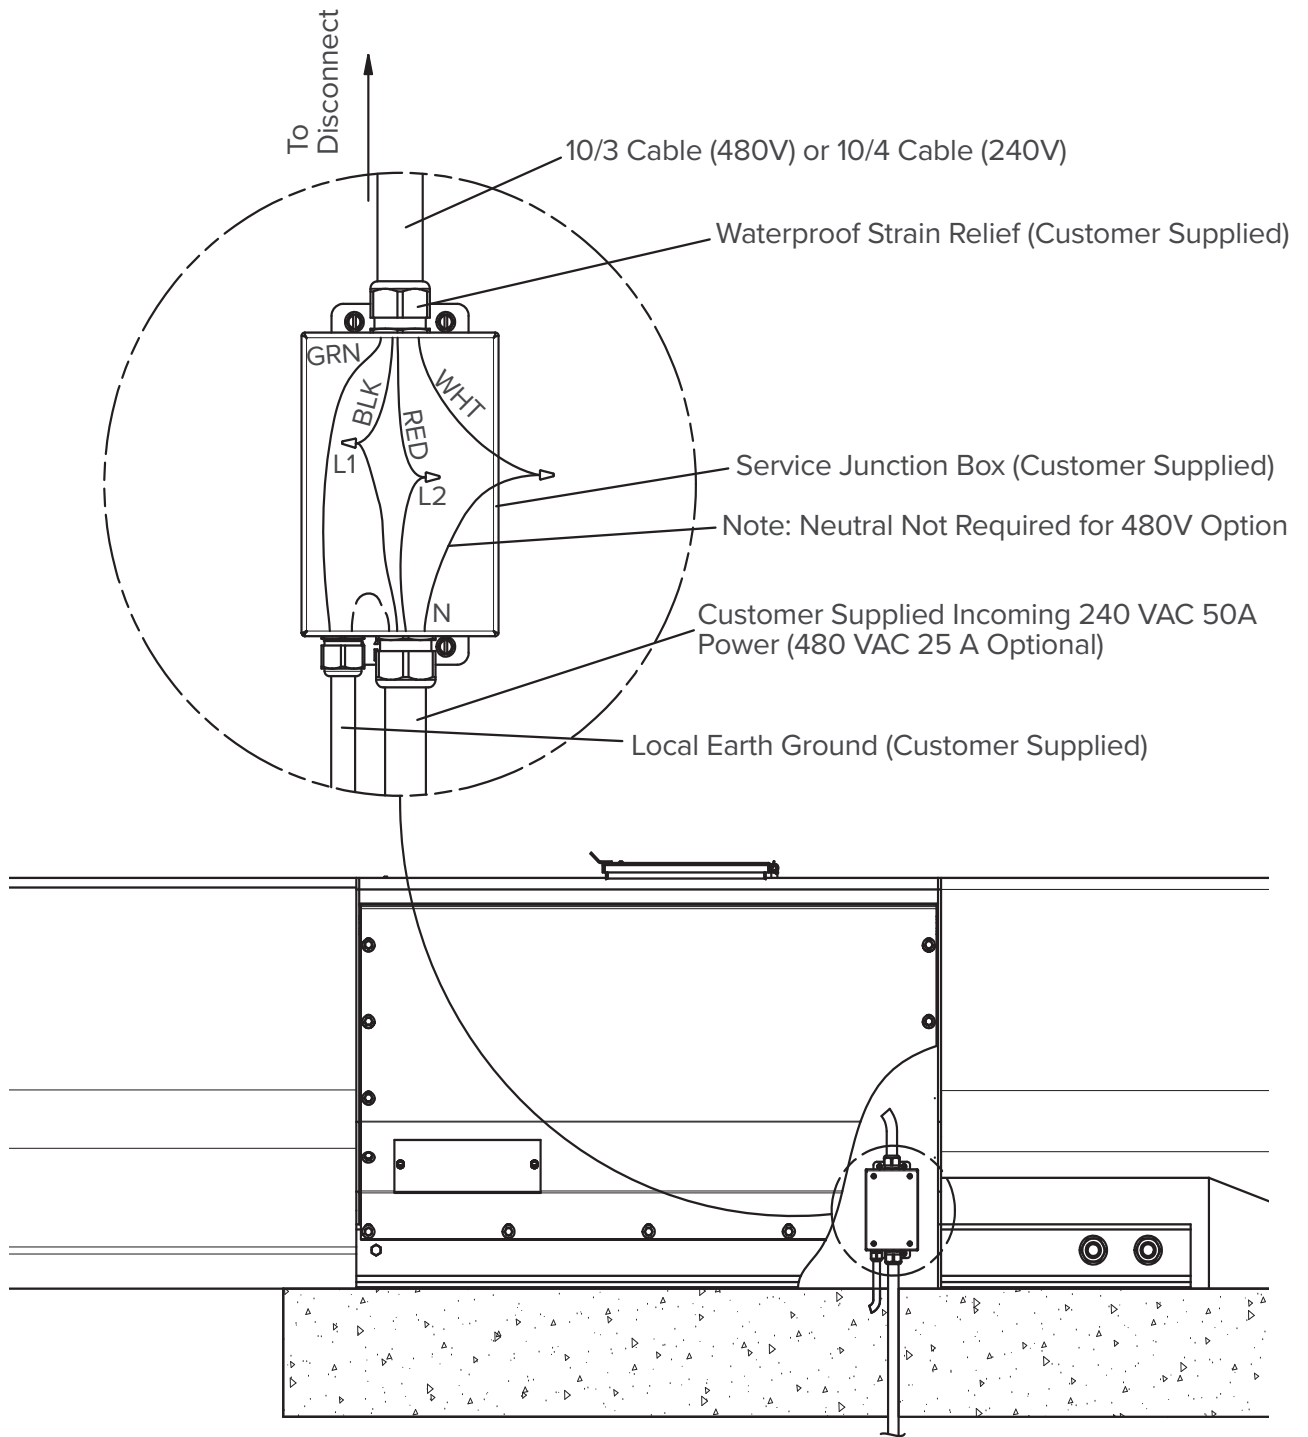

Figure 13
4. **Connect the incoming power to the disconnect** (Figure 13). Turn site power off before making the wire connections shown. Route the loose cable from the electrical disconnect to the service junction box. Use a waterproof strain relief (customer supplied) to secure cable. Ensure the supply is connected to a customer supplied local earth ground rod and disconnect is switched off before restoring site power.